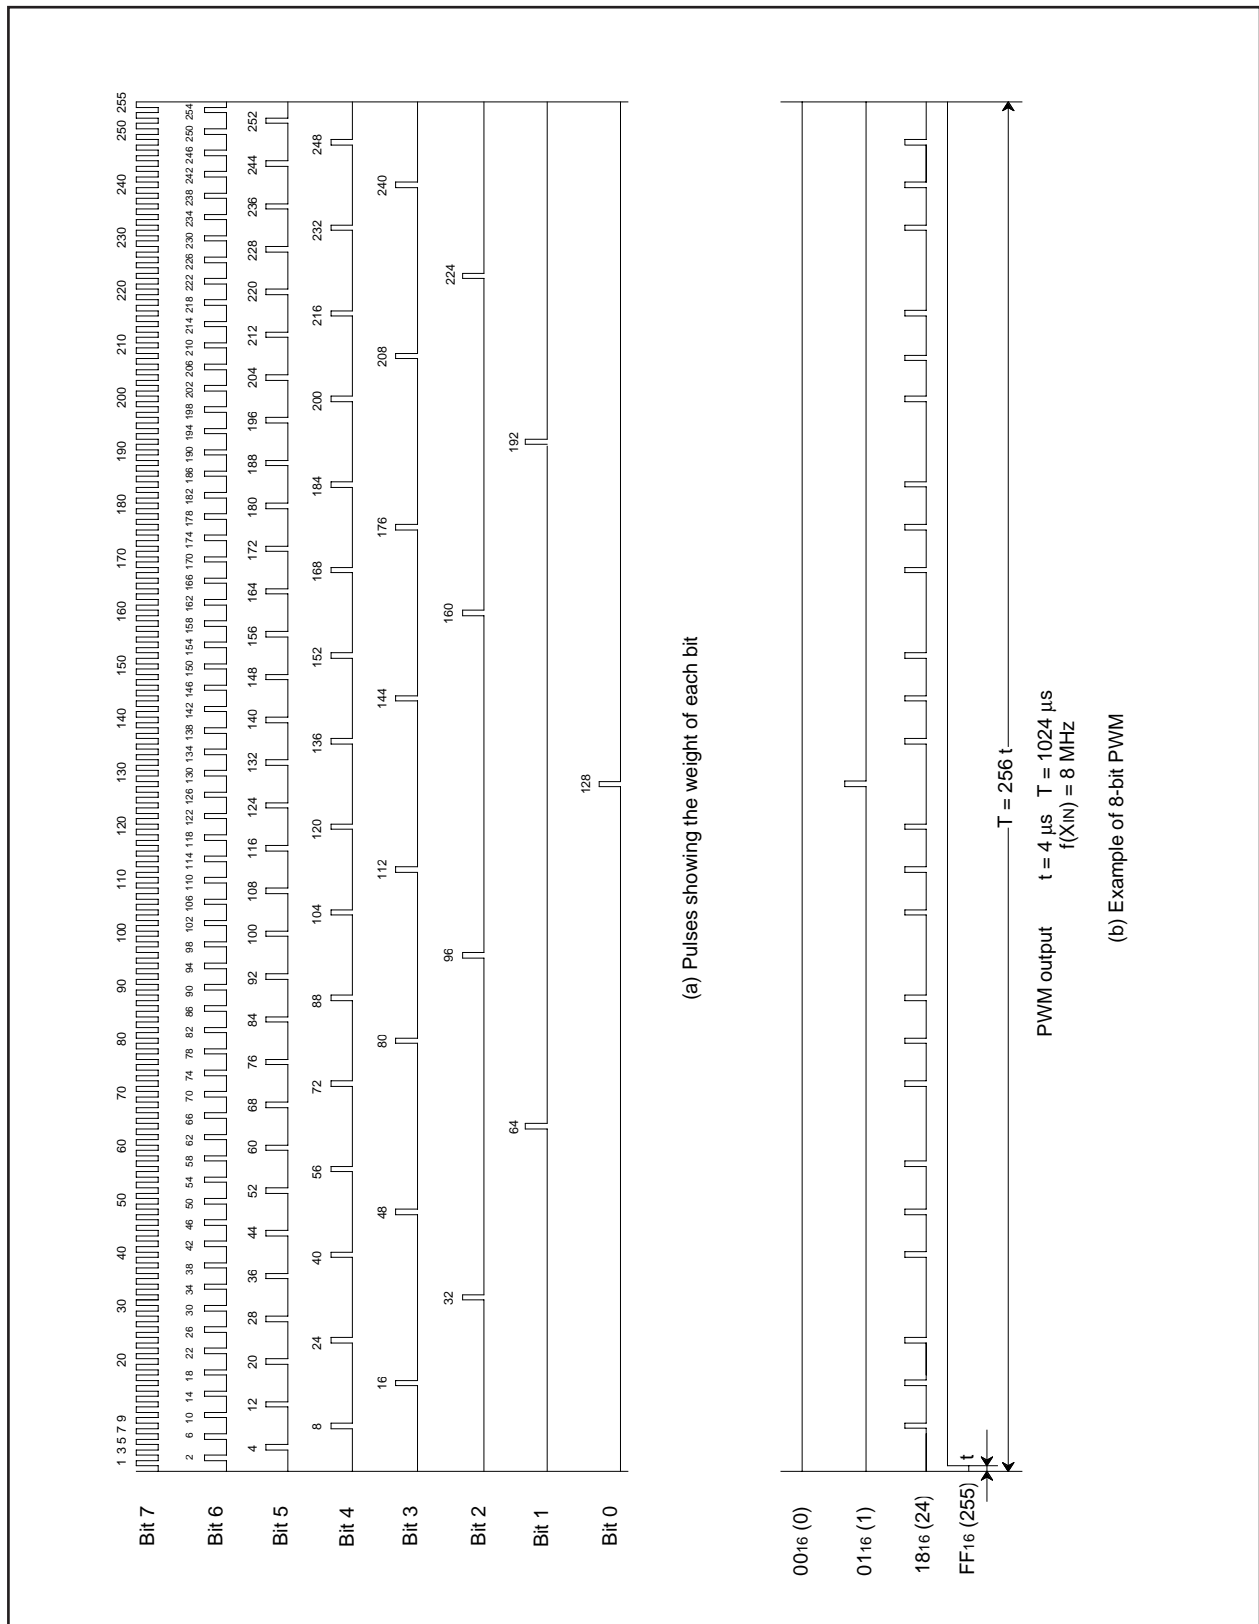

Fig. 12.7.2 PWM Timing
Figure 12.7.2 shows the PWM timing. One cycle (T) is composed of 256 (2^8) segments. The 8 kinds of pulses, relative to the weight of each bit (bits 0 to 7), are output inside the circuit during 1 cycle. Refer to Figure 12.7.2 (a). The PWM outputs waveform which is the logical sum (OR) of pulses corresponding to the contents of bits 0 to 7 of the PWM register. Several examples are shown in Figure 12.7.2 (b). 256 kinds of output (HIGH area: 0/256 to 255/256) are selected by changing the contents of the PWM register. A length of entirely HIGH cannot be output, i.e. 256/256.